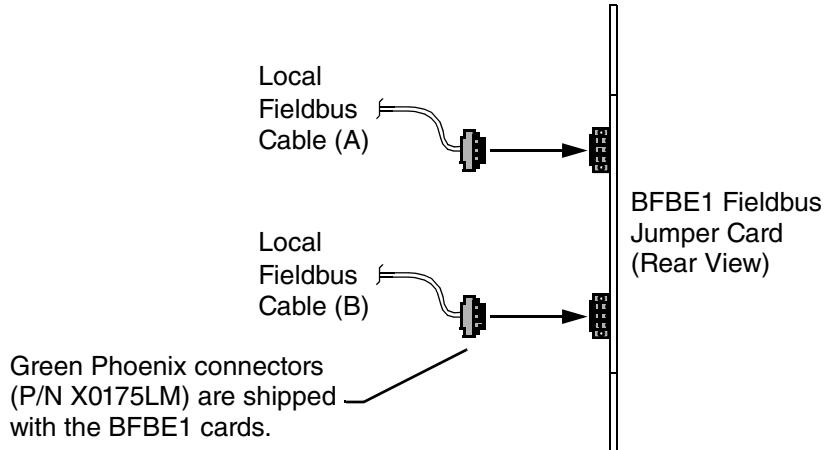

Figure E-5. Cable Connection at the BFBE1 Fieldbus Jumper Card
Cabling between the BFBE1 Fieldbus jumper cards is accomplished using Foxboro Fieldbus cable, 4.5m (15 ft) maximum cable run. (Refer to page 163 for cable description.) Make the cable connections at the BFBE1 cards as shown in Figure E-5.
- ◆ To make the cable connections to the BFBE1 Fieldbus jumper card, refer to Figure E-5.